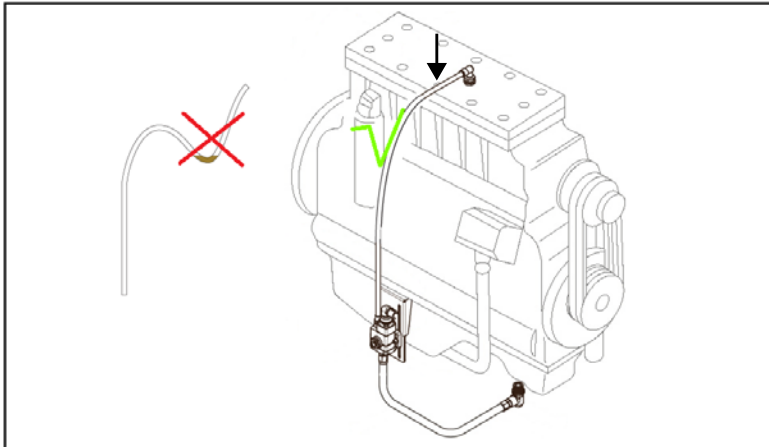

Figure 3.12 Connecting the PA breather tube on the sump level sensor
4. Replace the rocker cover and connect the breather tube (Figure 3.12).